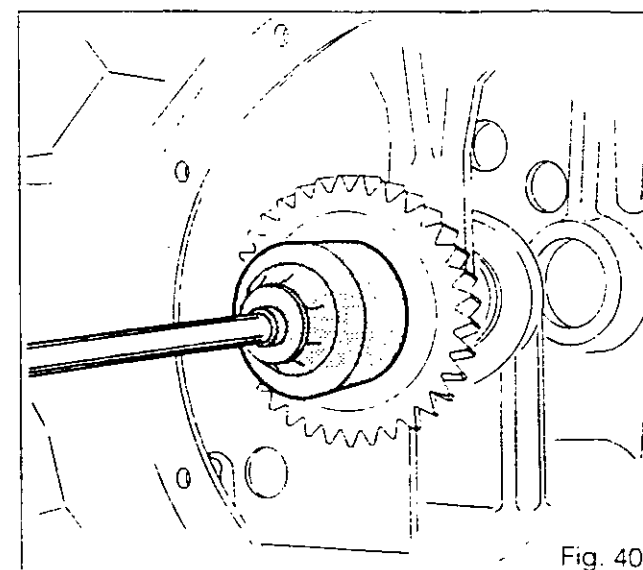

Fig. 40
130. Fit the nut (68) using special tool 3376805 M1. Tighten to a torque of 80-100 Nm (Fig.40).